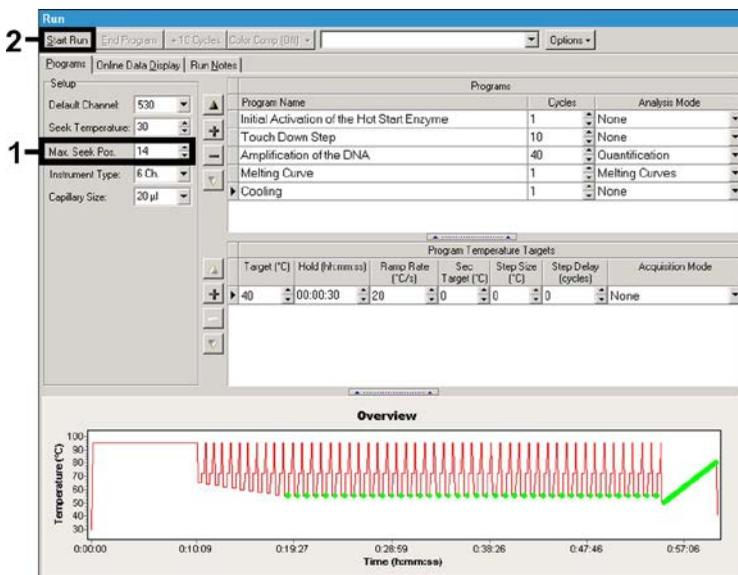

Fig. 8: Start of the PCR run.
Make sure that you first enter the number of capillaries prepared for this PCR run (*Max. Seek Pos.*, see Fig. 8).
- In order to start the PCR run, change to the field *Run* and activate the function *Start Run* (see Fig. 8). The PCR programme will start after entering the location, where the data should be saved.